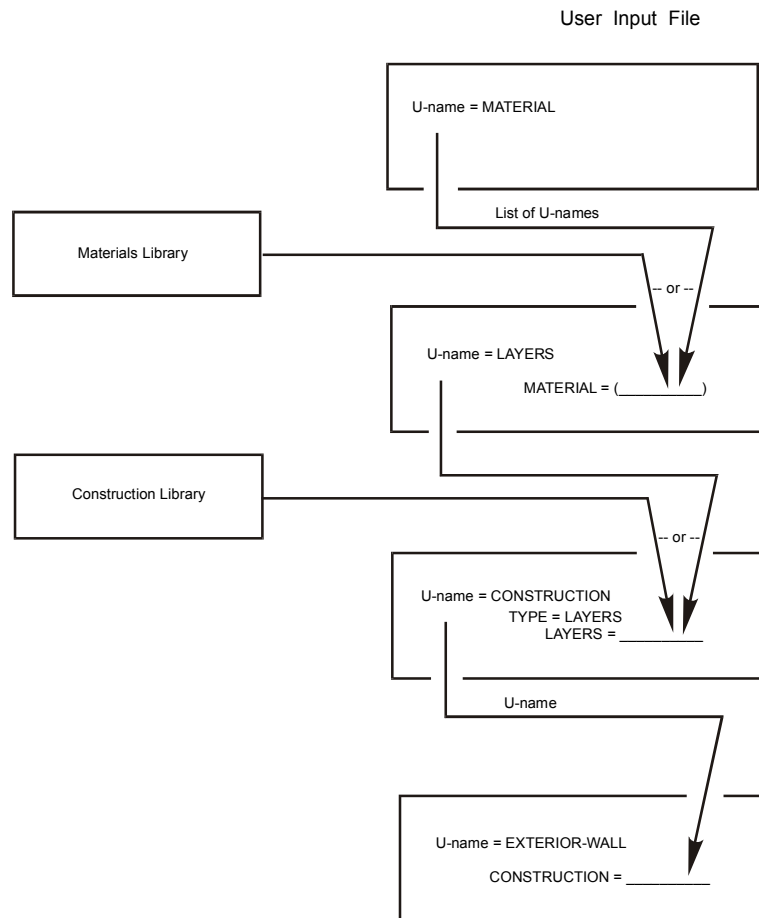

Figure 18 Specifying a "delayed" EXTERIOR-WALL (with a library)
2. Use TYPE = LAYERS and specify a code-word from the "Construction Library" in *DOE-2.2 DOE-2.2 Libraries & Reports*, for the LAYERS keyword in a CONSTRUCTION instruction (see Figure 18). This will yield a dynamic, or "delayed", exterior wall. The MATERIAL and LAYERS instructions are not used with this method. If you cannot find a suitable construction in the Library, use one of the following methods.
3. Specify a list of code-words from the "Materials Library" in *DOE-2.2 Libraries & Reports*, for the MATERIAL keyword in a LAYERS instruction (see Figure 18). Then, with TYPE = LAYERS, refer to the LAYERS instruction, by its U-name, in the LAYERS keyword of a CONSTRUCTION instruction. Finally, refer to the CONSTRUCTION instruction, by its U-name, in the CONSTRUCTION keyword of an EXTERIOR-WALL instruction. This will yield a dynamic, or "delayed", exterior wall.